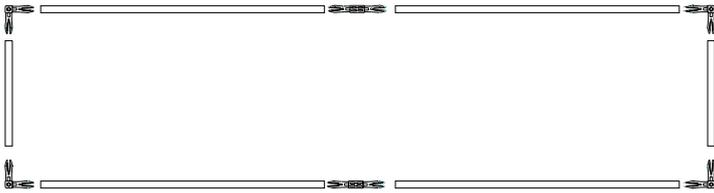

Figure 12: Diagram of 1 ft x 4 ft frame
- 1 Build the 1 ft x 4 ft frame structure as shown in Figure 12 using four 2 ft aluminum frame tubing pieces, two 1 ft aluminum frame tubing pieces, four right-angle tubing connectors, and two straight tubing connectors. Remember to construct the frame so that all Velcro surfaces face in (toward the center of the structure).